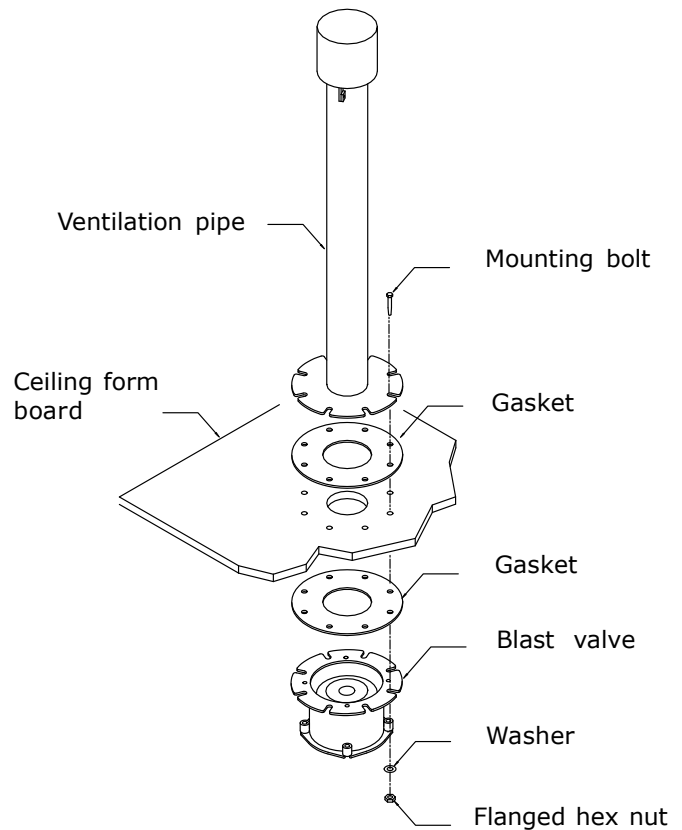

Figure G-5
4. Air ventilation 4-inch, figure G-5.
3. Using the 8 each $\frac{1}{2}$ inch X 3-in length bolts, sandwich the assembly together as shown in figure G-5.